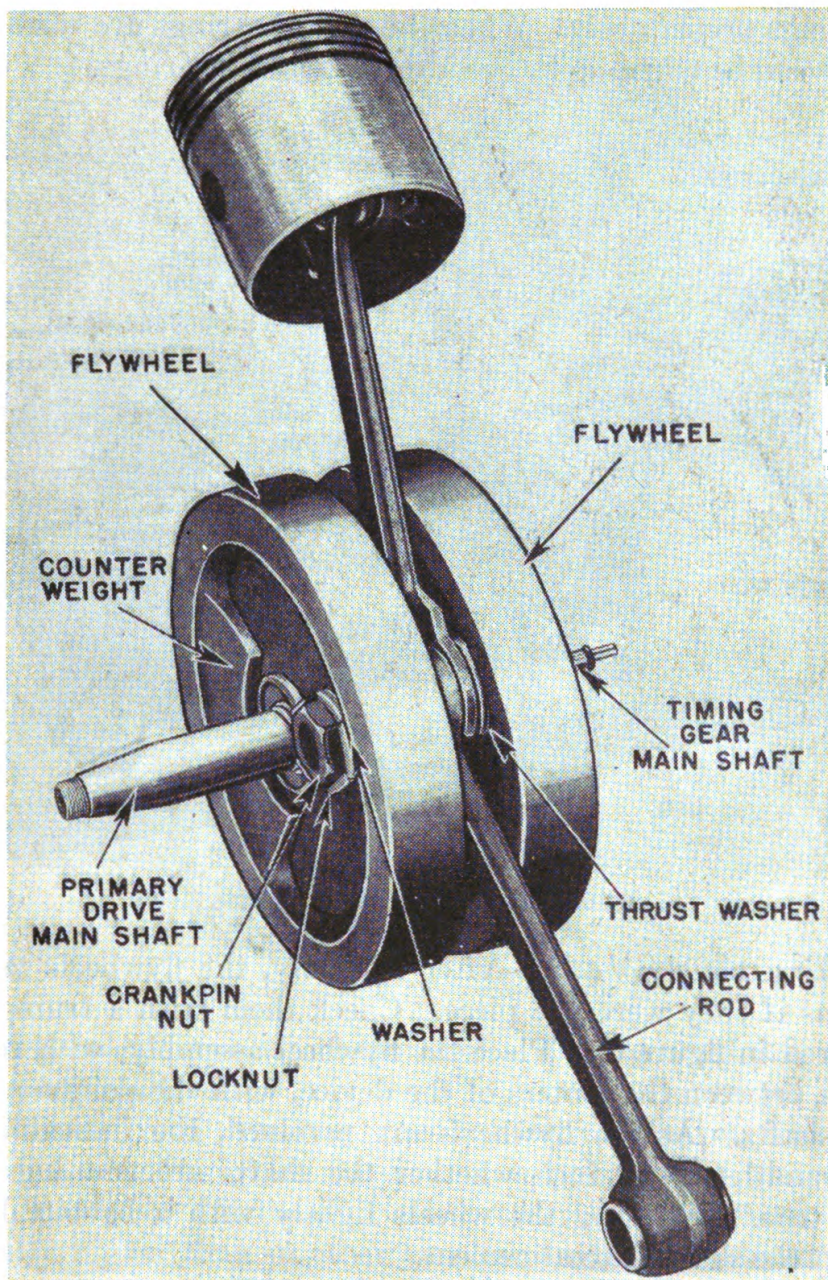

FIGURE 60.—Crankshaft-flywheel assembly.
*c.* The lower, or crankpin bearing, of the connecting rod is the most important bearing in the engine. The rollers, which have slightly rounded ends, must be fitted accurately. For this reason, rollers are available in sizes varying 0.0001 of an inch. Connecting rods are originally fitted approximately 0.001 of an inch loose on the rollers and crankpin. The upper ends of the rods have a maximum of  $\frac{1}{16}$ -inch "side shake" with 0.001 inch lower bearing clearance. To allow free movement of parts at high speed, the connecting rods must have some play between the flywheels when the flywheels are drawn up tightly on the crankpin. The play is increased by installing thinner thrust washers between the bearings and the flywheels. (See fig. 60.)
Thus the flywheels are actually the arms of a single throw crankshaft as illustrated in figure 60. The flywheels are of high tensile strength cast iron (alloy) or cast steel. Counterweights are cast integrally